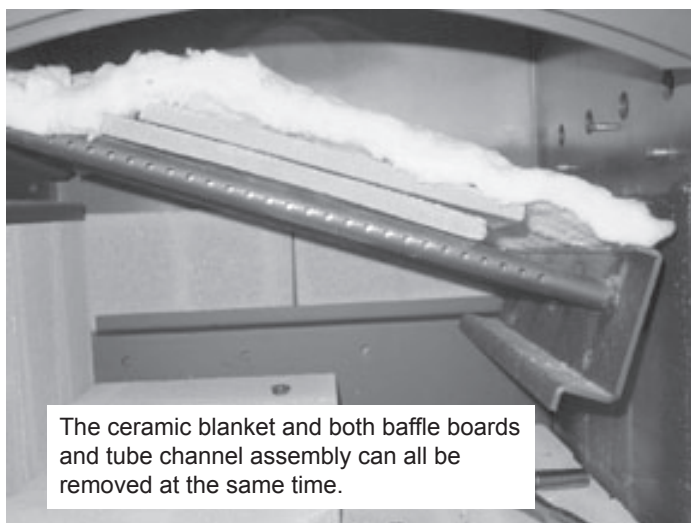

Figure 24.1
3. Once the baffle protection cover has been removed, pull the baffle boards and ceramic blanket forward about 1 inch (25mm) and then overlap the baffles about 1-2 inches (25-51mm). **Figure 24.1**.
4. Slide the tube channel assembly all the way to left until it is off the threads. Drop the right side down, then slide the assembly back to right. **Figure 24.1 on page 24.**